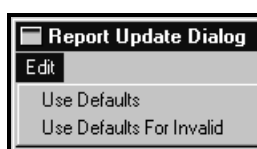

Figure 3-77. Report Update Dialog - Edit Menu
As shown in Figure 3-77, the **Report Update** dialog has one (1) menu named **Edit**, which contains two (2) selections. They are: **Use Defaults** and **Use Defaults For Invalid**.